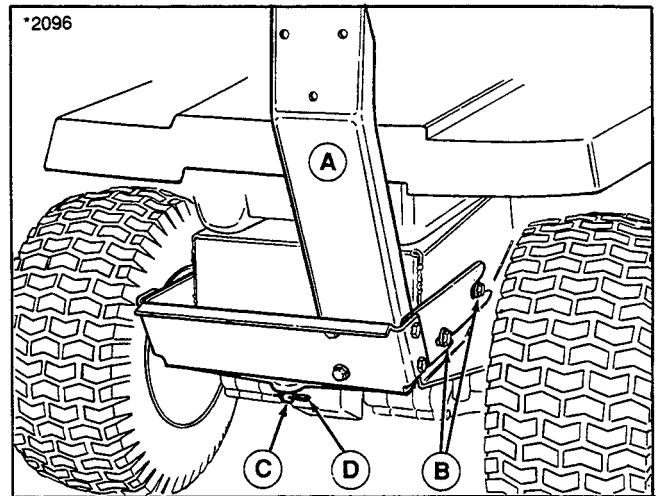
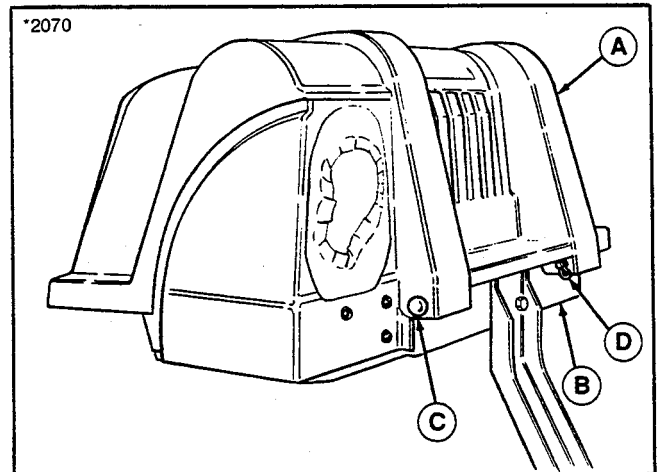

Figure 1.
Figure 2.
1. Install grass bag and bracket assembly (A, figure 1) onto frame spacers (B) as shown in figure 1. Guide front slots of bracket assembly over front spacers and push forward so assembly will rest on rear spacers. Install clevis pin (C) through back plate and drawbar and secure with spring clip (D). If assembly is too bulky to install, separate grass bag cover (A, figure 2) from upright supports (B) by removing clips (D) and long clevis pins (C). Reinstall cover after support is installed.